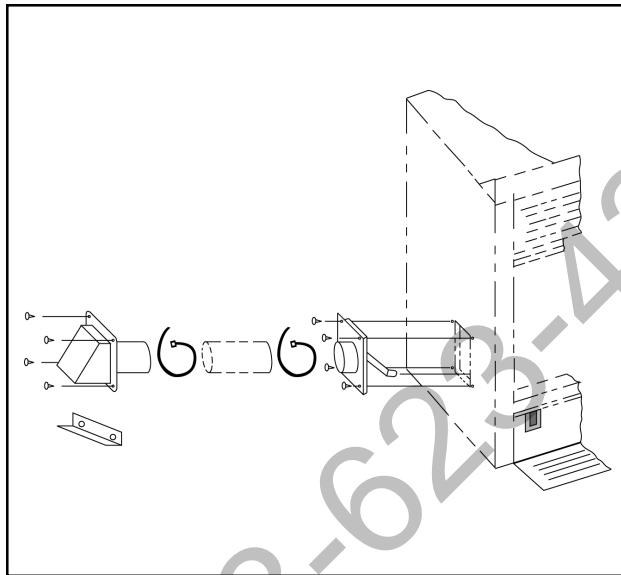

Figure 10 - Air Kit Installation
- a. The air kit can only be installed on the left side of the appliance. See Figures 10 and 11 for correct orientation of the door assembly and handle. The hinge will be toward the back of the appliance.